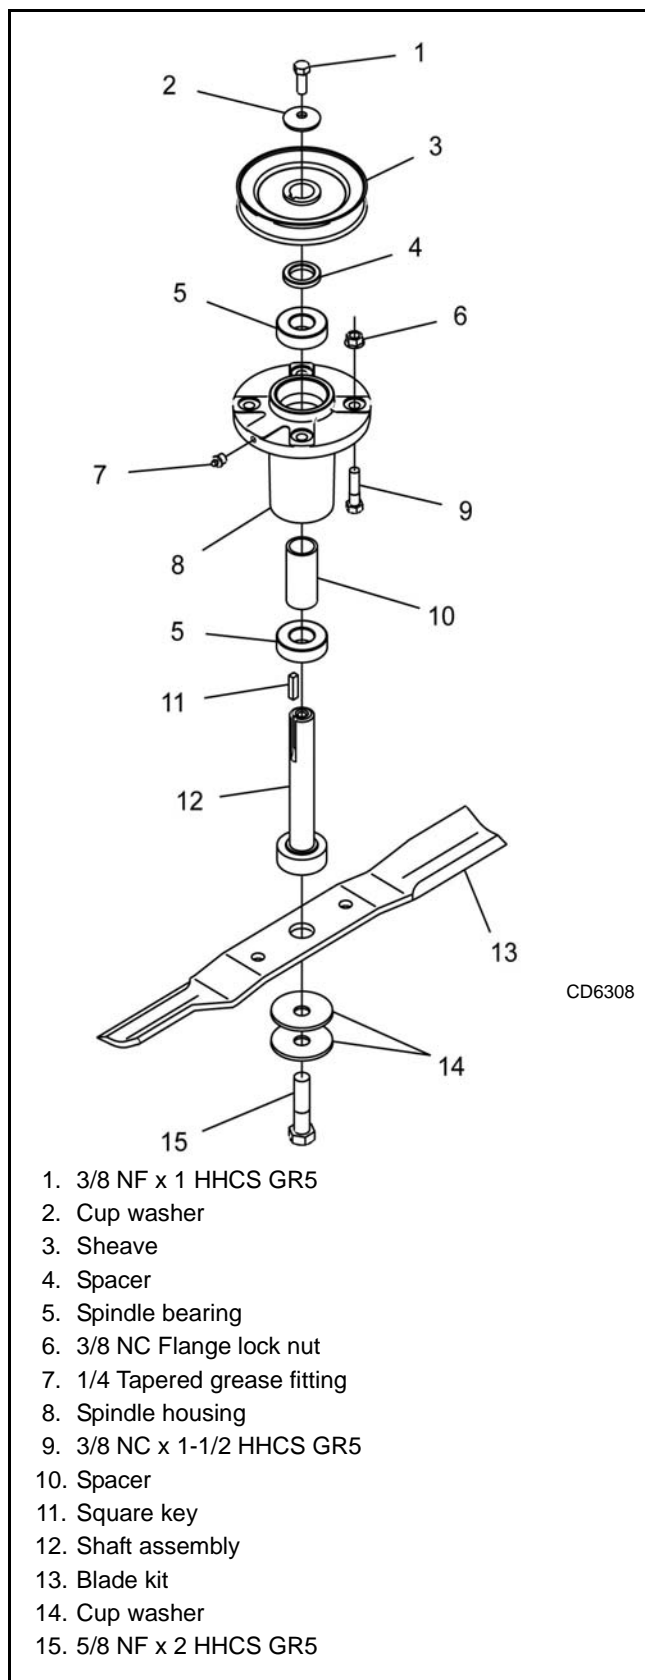

Figure 12. Blade Spindle Assembly
4. Remove nuts (6) and bolts (9) that secure spindle to mower. (See Figure 12.)